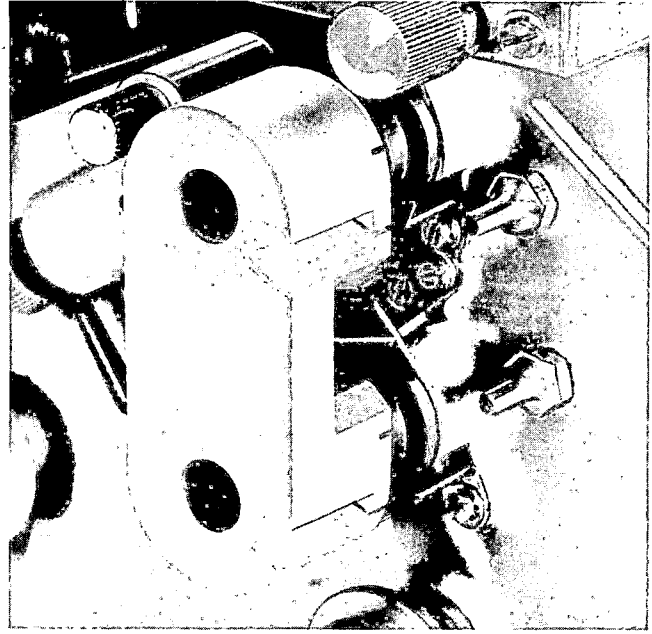

Figure 15. Using the Sprocket Synchronizer Gage
c. Place sprocket and shuttle synchronizer gage (Tool No. S-061081-N31, figure 2) over sprockets as shown in figure 15. Teeth on both sprockets must enter grooves in the gage, and the gage must be in exact perpendicular position as shown in figure 15.